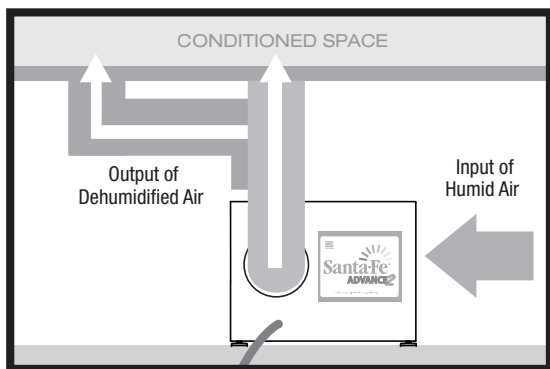

Figure 3:
4.2C Remote Area, w/Outlets Ducted (Figure 3)